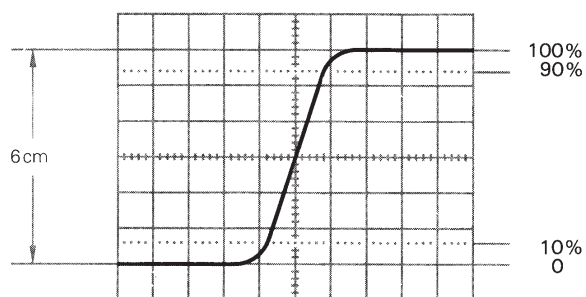

Fig. 18
This time is referred to as the rise time (or fall time) t_{tot} , and is normally measured between 10 % and 90 % of the pulse height. See Fig. 18 below. The 10 % to 90 % limit is used to ensure that transients, ramp-offs and bandwidth limitations do not influence the measuring accuracy.
The HM605 CRT's internal graticule is especially calibrated and divided for rise time measurements. (See Fig. 18 below).
1. Adjust TIMEBASE controls until pulse is displayed as shown in Fig. 18 above. The X POS, X MAG $\times 10$, and the sweep delay facility may have to be used.
3. Measure distance (time t_{tot}) between the two points at which trace crosses the dotted lines 2.4 cm above and below the centre line (See Fig. 18).